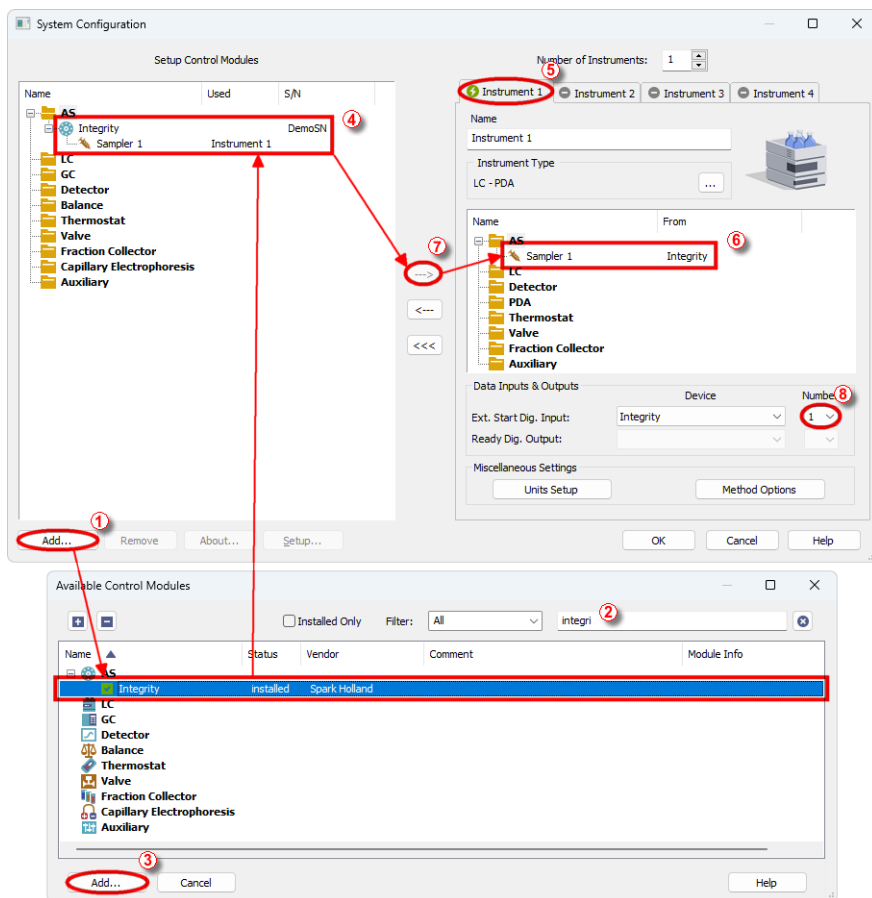

Fig. 5: System Configuration
- Press the **Add** button ① (see Fig. 5 on pg. 7.) to invoke the **Available Control Modules** dialog.
- You can specify the searching filter ② to simplify the finding of the driver.
- Select the **Integrity** sampler and press the **Add** ③ button.